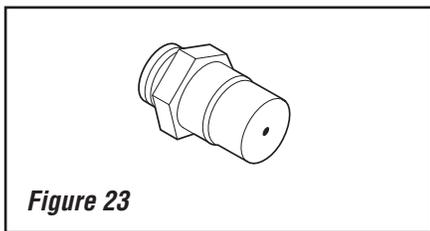

Figure 23
A. Remove the orifice from the manifold with a 1/2" deep throat socket. See the following table for orifice sizes for natural and propane models. **Figure 23** illustrates the orifice. Use pipe joint compound or Teflon tape on all pipe fittings before installing (ensure propane resistant compounds are used in propane applications, do not use pipe joint compounds on flare fittings).